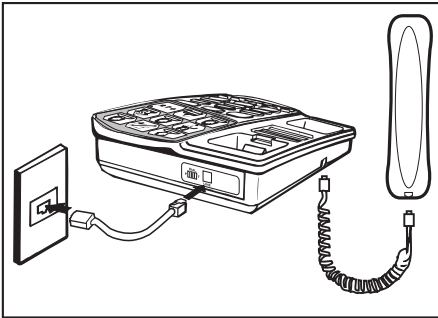

Fig. 3 – Connections and installation
2. Connect telephone line cord to telephone as shown in figure 3.
5. Connect the handset cord to the telephone as shown in figure 3.